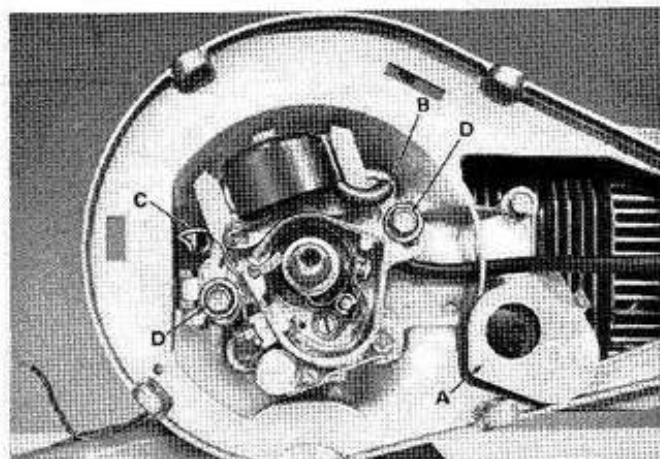

Figure 67. Stator Assembly Removal.
- a. Remove the metal cover and the dust shield (A) from the stator assembly. (See Figure 67.)
and the ignition short out wire (C). (See Figure 67.) Incorrect placement of these wires at reassembly will cause cutting by the rotation of the flywheel. Ignition failure will then occur. Also check for evidence of a fuel film surrounding the crankshaft seal. If evident, seal replacement is mandatory.
- b. Using a 3/8" socket, remove the 2 screws, lockwashers and flat washers (D).